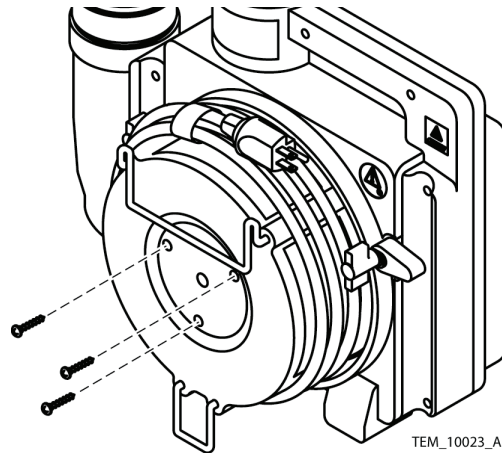

Figure 64. Filter Cover Screws
3. Remove the filter cover screws from the warming unit. See Figure 64.